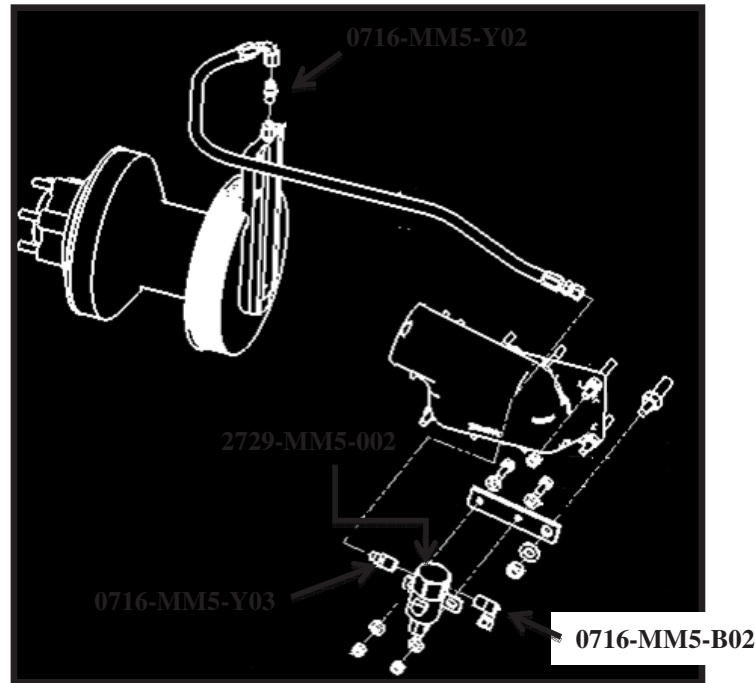

FIG. 7-1
10. Apply 81801 pipe sealer w/Teflon or equivalent to pipe threads only on the supplied 0716-MM5-Y02 fitting and install in the actuation port on the top of the clutch. Refer to FIG. 7-1. Be sure to remove plastic insert installed by the manufacturer. Refer to FIG. 5-2.
18. Assemble actuation solenoid as shown in drawing. Be sure to apply 81801 pipe sealer w/Teflon or equivalent to pipe threads only on NPT fittings. Refer to FIG. 7-1.